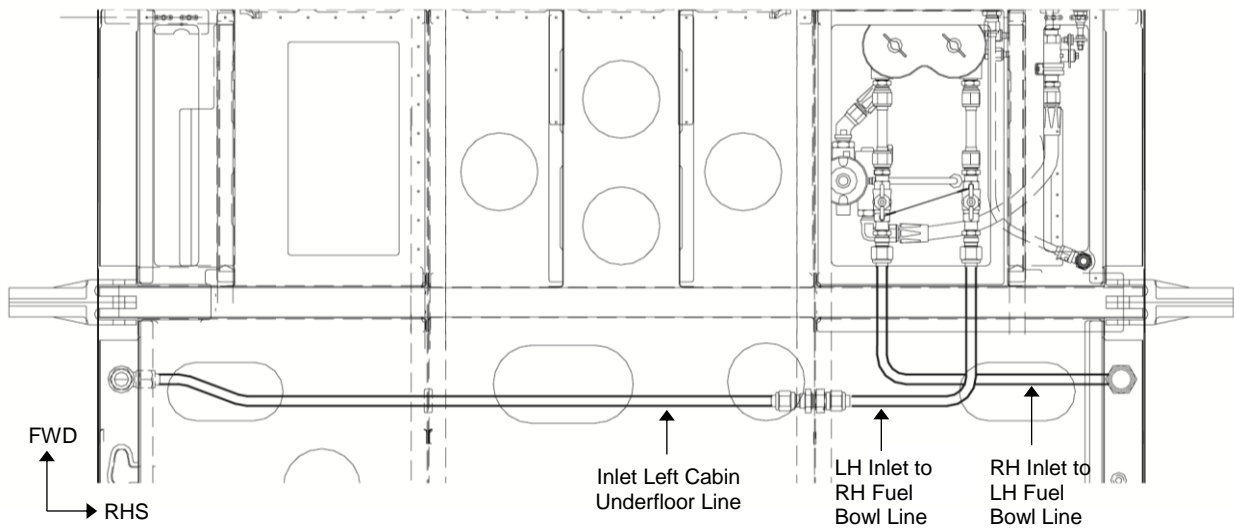

Figure 15: Fuel Lines - view looking from above (MK II Fuel system shown, MK I similar)
- 6) Disconnect the LH Inlet to RH Fuel Bowl Fuel Line (GA8-282013-107) from the sump tank service valves (See Figure 15).
- 5) Disconnect this fuel line from the sump tank service valves (See Figure 15).